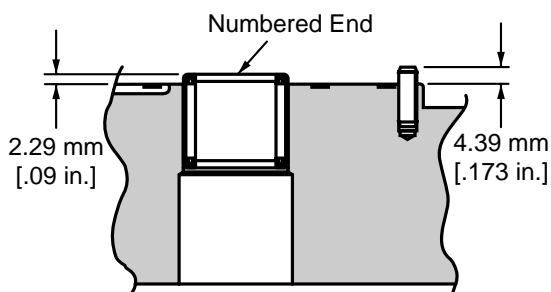

Figure 1-3
- Check the bearing (press fit) in backplate. If needles remain in cage, move freely, and setting is at the dimension shown in figure 1-3, removal not required.
- Check roll pin in backplate. If tight and set to the dimension shown in figure 1-3, removal not required.
13 If necessary, press new bearing and roll pin in backplate to dimension shown in figure 1-3. Bearing installed with the numbered end outward. Roll pin installed with split oriented away from bearing.